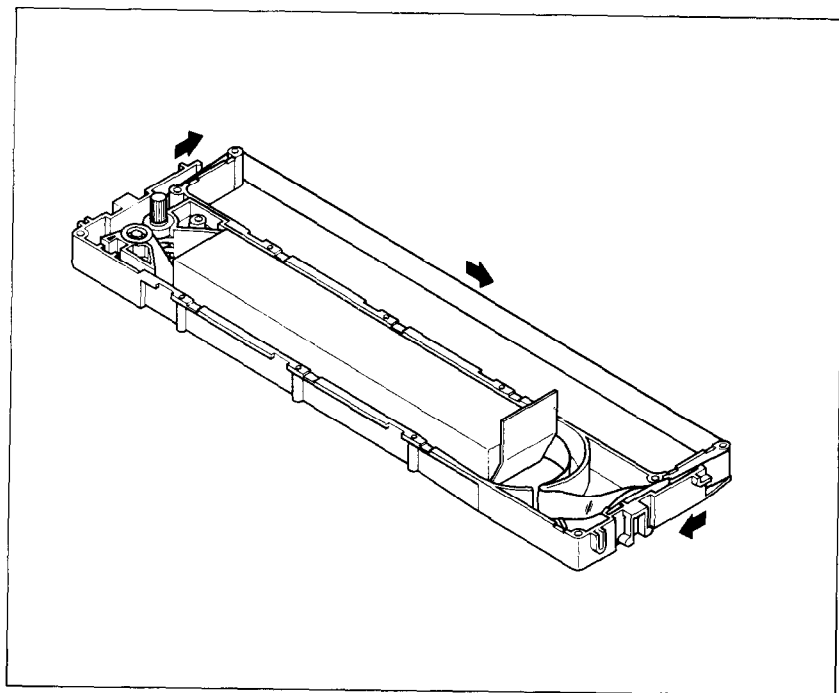

Figure 11-3. Make sure that the ribbon is not twisted when you thread it through its path.
8. Pull out the ink ribbon and set it according to the directions shown by the arrow in Figure 11-3. It's easy for the ribbon to get twisted somewhere along its pathway. Don't let it happen!